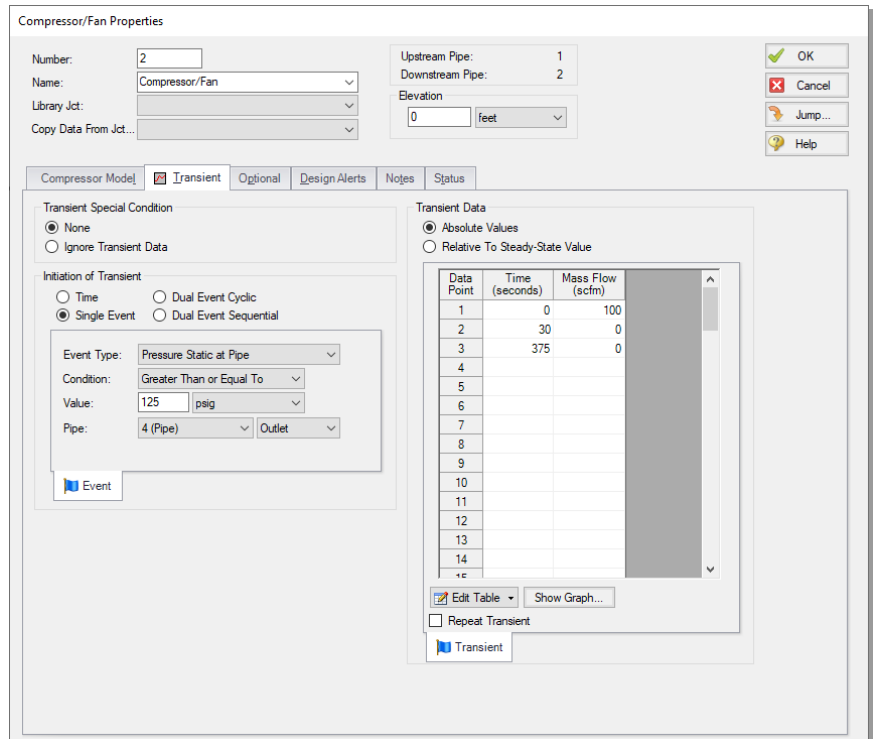

Figure 5.14 Compressor junction Transient tab with an event-based flow transient defined
- **Open the Compressor Properties window** for the J2 Compressor and navigate to the Transient tab. Under Initiation of Transient, select Single Event and enter the Transient data as shown below in Figure 5.14.